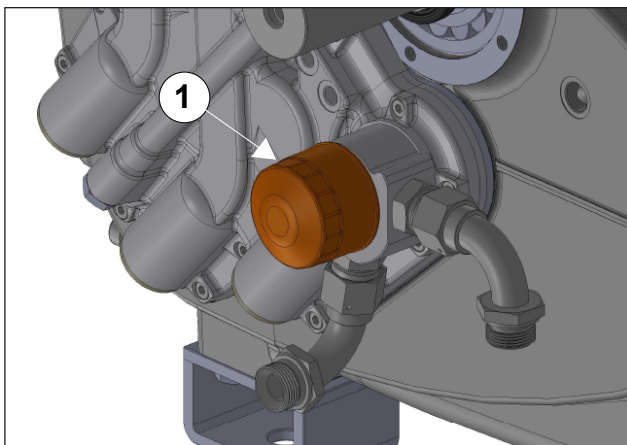

Fig. 132
Fit the oil filter cartridge by tightening it manually (pos. ①, Fig. 132).